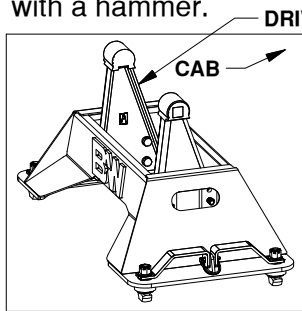
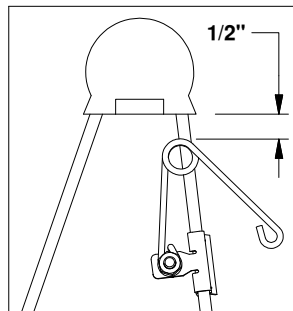

**Figure B1:**
**Figure B2:**
- 1. Assemble kit.** Locate the 1/4" cap screw and nut, along with the wire torsion spring and mounting clip. Pass the 1/4" cap screw through the mounting clip and the wire spring, as shown in Figure B1. Thread the 1/4" lock nut onto the 1/4" cap screw. Tighten the lock nut just enough that the spring will stay in place but will still be able to rotate around the bolt if needed, see Figure B2.